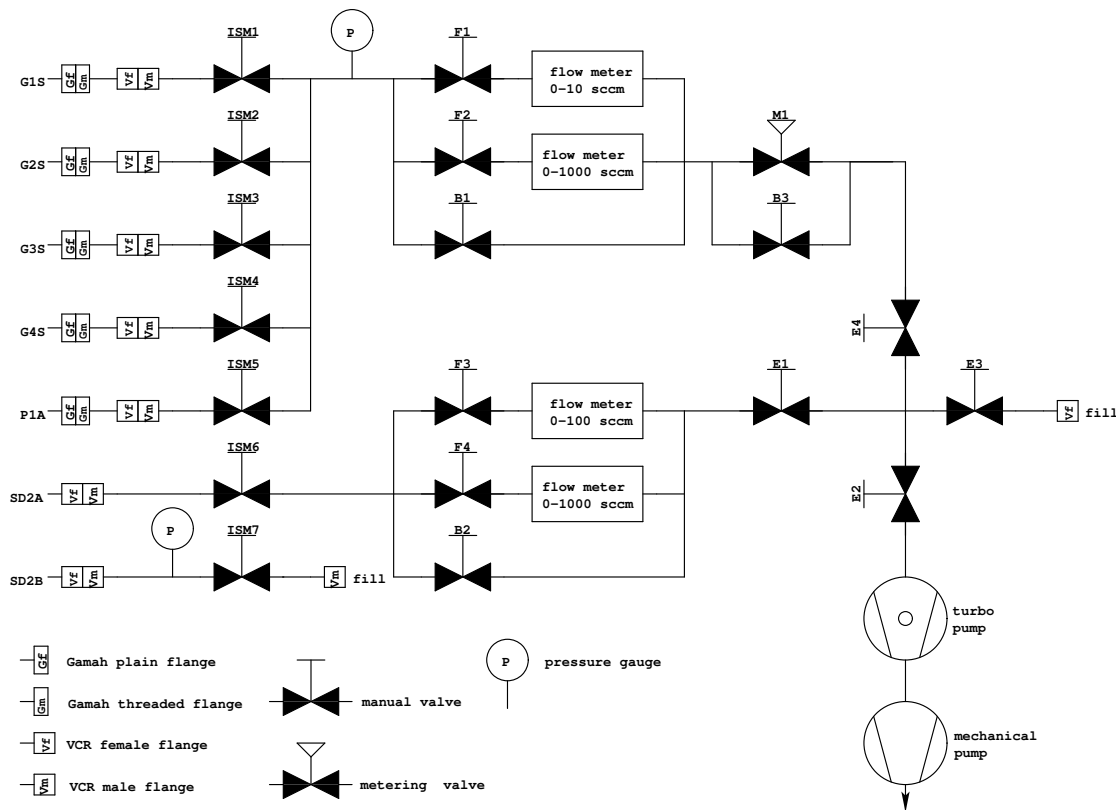

Fig.2 Schematic of Impedance Simulation Manifold (ISM) connected to Spin Up GMA
| Impedance Simulation Manifold                 | See Fig. 2                   |             |
- 4.2.1 See Fig. 2. Attach manifold to G1S-G4S and P1A through the connector savers. Then attach manifold to SD2A and SD2B through the connector savers. Leak test all the connections made to the GMA through the ISM7 and/or the E3 valve on the manifold.
- 5.1.1 Close manual valves ISM1-6 on the ISM (Fig. 2).